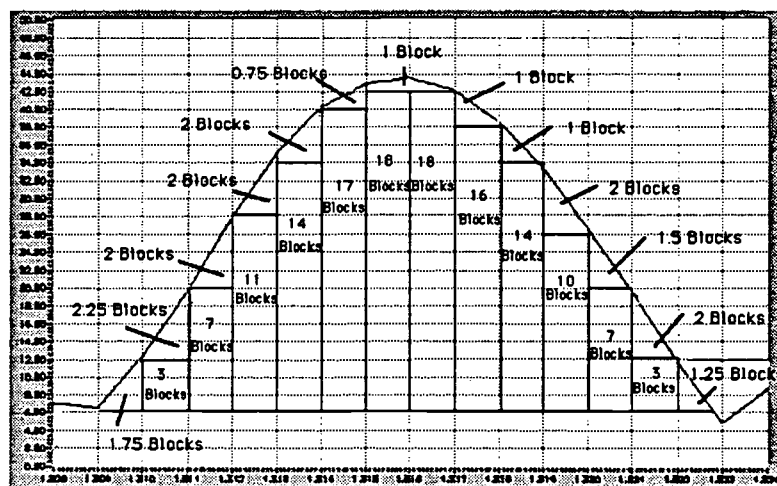

Figure 6: Impulse  $\vec{F}(t)$  curve with area approximation by blocks
You should also check your integration by quickly counting the blocks under the  $\vec{F}(t)$  plot as shown in Figure 6. One method of doing this rough calculation of the area beneath the curve is to enlarge the graph and superimpose a grid. Note that force data has been collected every 0.001 sec. After counting the full blocks, quickly examine each partial block along the edge and estimate how much (e.g. 0.00, 0.25, 0.50 0.75 or 1.00 of a block) should be added for each. Finally, to determine the area you simply multiply the number of blocks by the area represented by a single block. An example of this fitting is shown in Figure 6.
2. Enlarge the collision  $F(t)$  plot at the first collision. Enlarge it so that you have a plot similar to Figure 6. Obtain a plot suitable for determining the impulse and print a copy.
3. Enlarge the  $F(t)$  plot so that you have a plot similar to Figure 6. Obtain a plot suitable for determining the impulse and print.